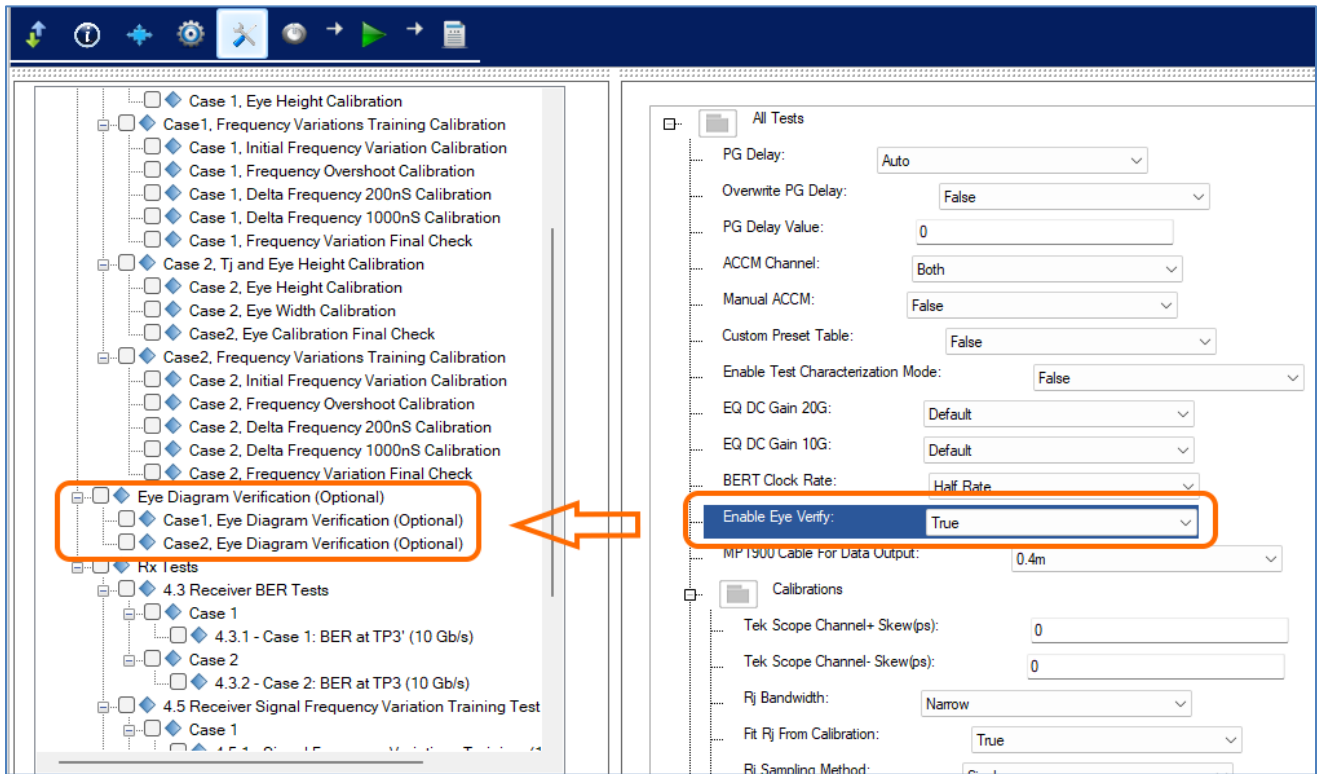

FIGURE 24. ENABLE EYE DIAGRAM VERIFICATION SELECTION
*Note that the “Eye Diagram Verification” selection list can be enabled/toggled using the **Configurations** page “Enable Eye Verify” parameter (refer to Figure 24 on the next page).*